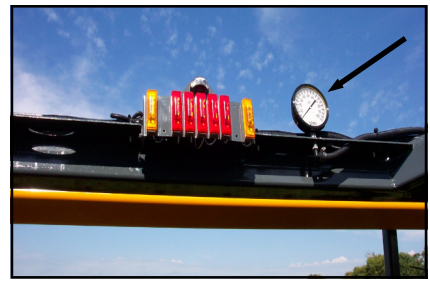

FIG. 64-1
**SOLUTION PRESSURE GAUGE**– The pressure gauge (fig. 64-1) gives you a constant visual display of the amount of solution being applied (measured in PSI). The pressure, as determined by the pulse width modulated control valve, will vary according to ground speed. If applying solution manually, the solution pressure gauge visually informs the operator of needed manual adjustments. The gauge also shows when there is a drop in pressure indicating that the solution tank maybe empty or there is a problem with the system.